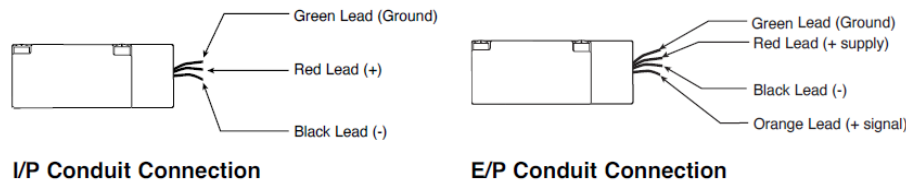

Figure 4
- 2.5.2 Conduit Connection (voltage to pressure) Electrical connections are made to the red (+ supply), black (- return for both supply and signal) and orange (+ signal) leads. The green lead is furnished for case ground. Recommended supply voltage is 7-30 v DC (see figure 4).